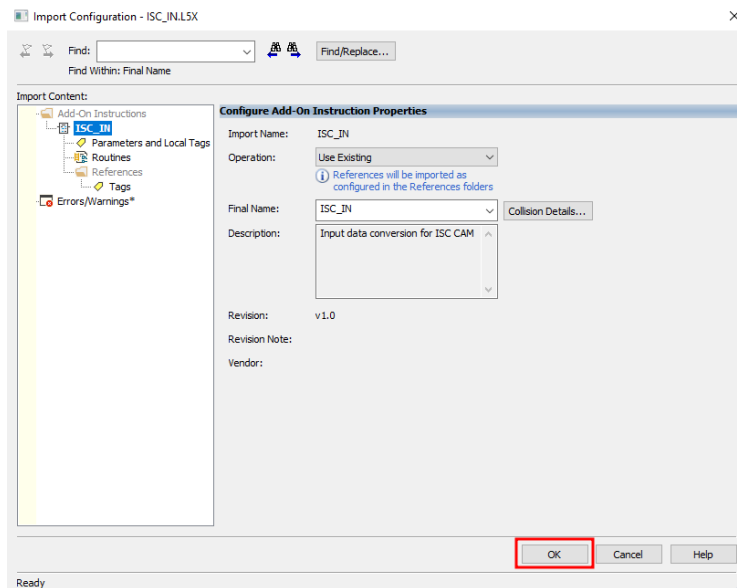

Figure 34: Import Configuration – ISC_IN.L5X
18. An “Import Configuration – AOI_ISC_CAM_v2_INPUTS” window opens press “OK” to add file to project, Figure 34.